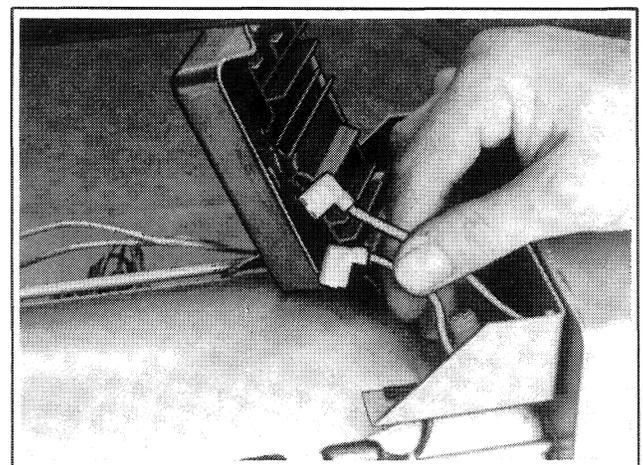

Figure 4-5. Disconnecting Regulator Leads
2. Unscrew voltage regulator and disconnect all leads. Figure 4-5. Unscrew power panel and disconnect all leads.